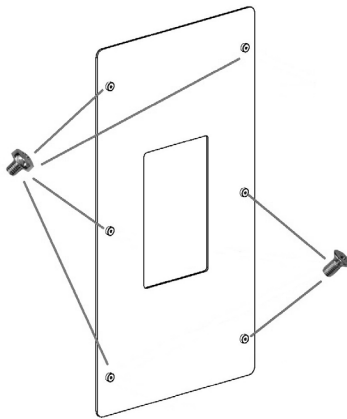

Fig. 41 - Tighten the screws
- Tighten the screws on the bushes on the glass: 4 screws with round heads and 2 screws with flat heads (see **Fig. 41**).